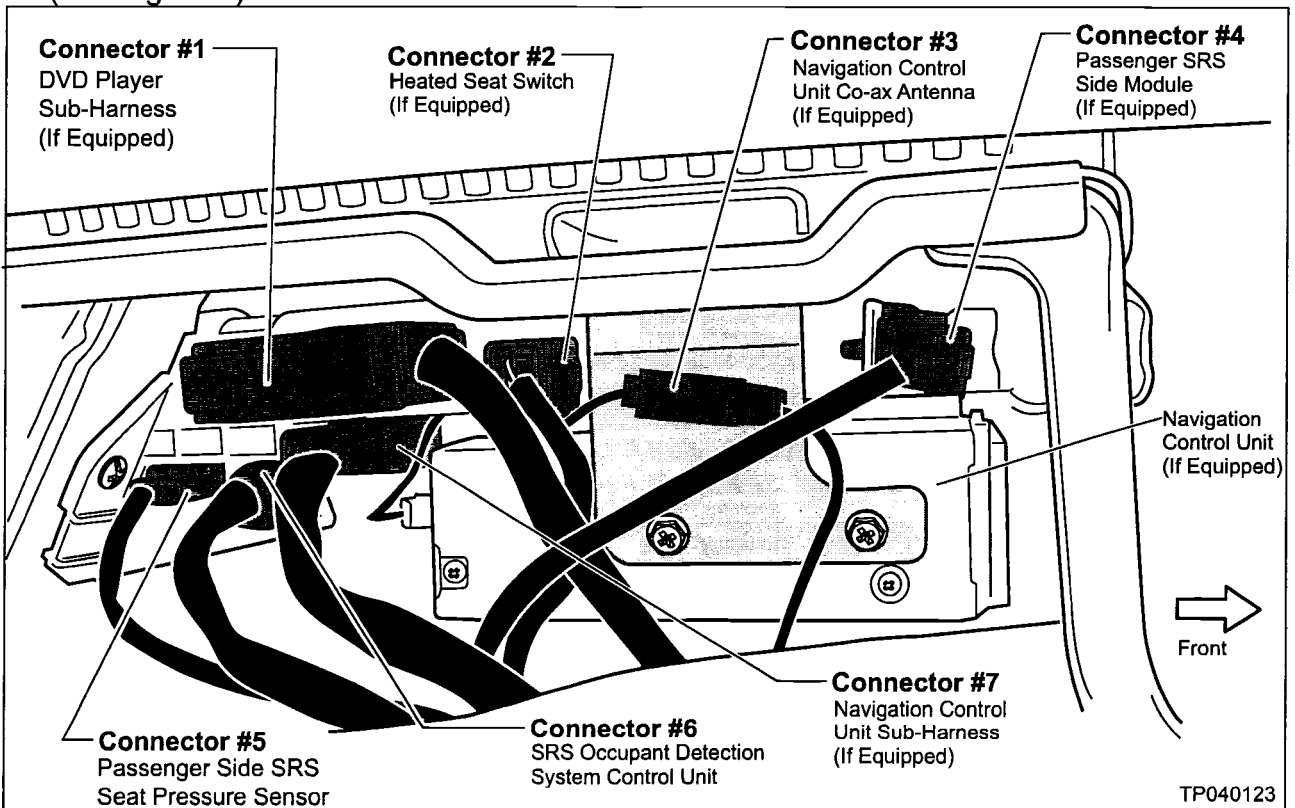

Figure 8
12. Carefully disconnect the following harness connectors from the Passenger Front Seat (see Figure 8).